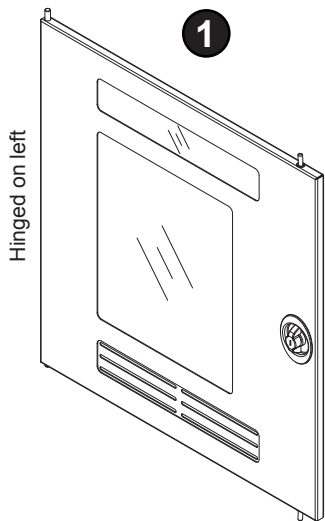

Figure 6B
1. Remove the door using the quick-release lever. **Figure 6B.**